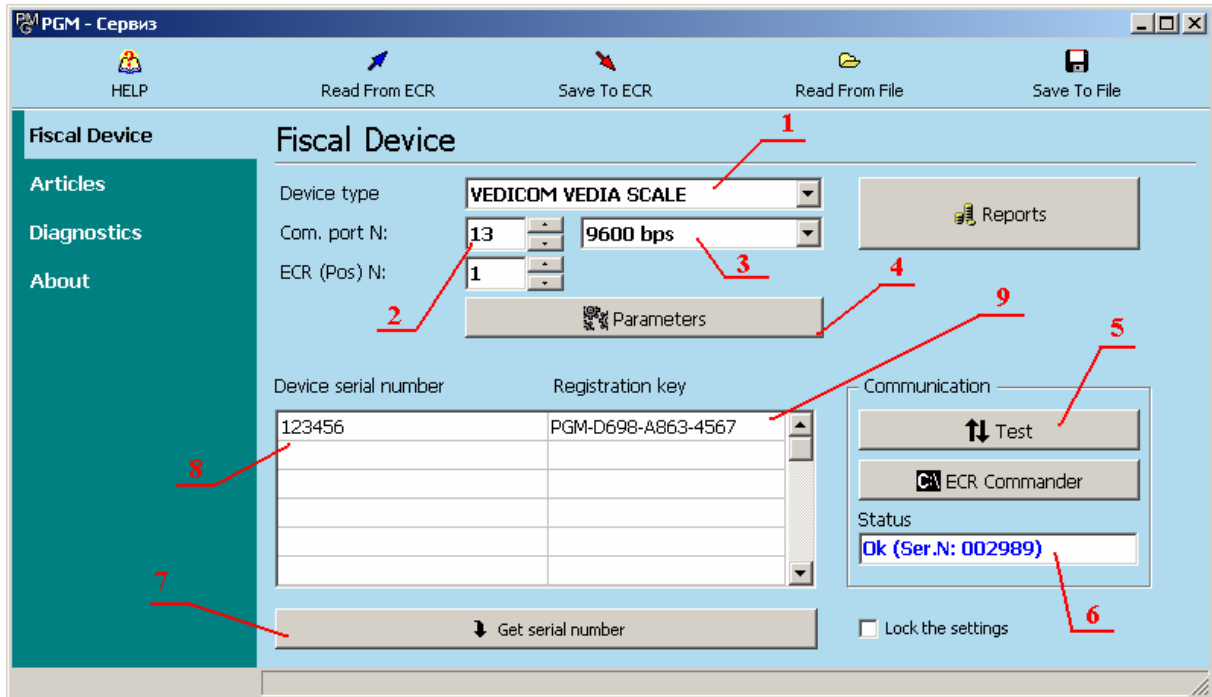

Fig.6. – Initial screen of PGM
After starting PGM, the initial screen of the program is loaded as it is shown on Fig.6. Before programming articles the following settings have to be done:
- From the falling menu Device Type (marked as 1 on Fig.6) select VEDICOM VEDIA SCALE.
- In the field Com port N: (marked as 2 on Fig.6), the COM port is selected for connection with the scale.
- From the falling menu of the speed transfer (marked as 3 on Fig.6) select the preferable data speed transfer. The selected speed must be the same as the selected in starting the scale in programming articles mode. (3.1).
- Press key Parameters (marked as 4 on Fig.6) and the screen for parameters settings is opened (it is shown on Fig. 7). In this screen you select the values of the following parameters in text mode: “ArticlesCount” – number of articles (marked as 1 on Fig.7), “MaxPLU” – maximal number of PLU (marked as 2 on Fig.7) and “MemoryPackageLen” – the size of the data field (marked as 3 on Fig.7). Values of these parameters depend on programmed length of the data field at scale in starting the scale in programming articles mode. (3.1). According to the setting of the scale these parameters can have the following values:
- Enter the serial number of the scale in Device Serial Number field (marked as 8 on Fig.6). The serial number is written on the manufacturer's mark. Pressing key Get Serial Number (marked as 7 on Fig. 6) the serial number is shown automatically without necessity to be entered manually.
- The registration key for the scale is entered together with the serial number in Registration Key field (marked as 8 on Fig.6). Registration key is received when software is purchased. Several serial numbers and registration keys of a few devices (scales) can be entered.
- After all parameters are set, press key TEST (marked as 5 on Fig.6) to check the communication between the scale and the computer. If everything is fine, a blue OK followed by the serial number of the scale appears in Status field.